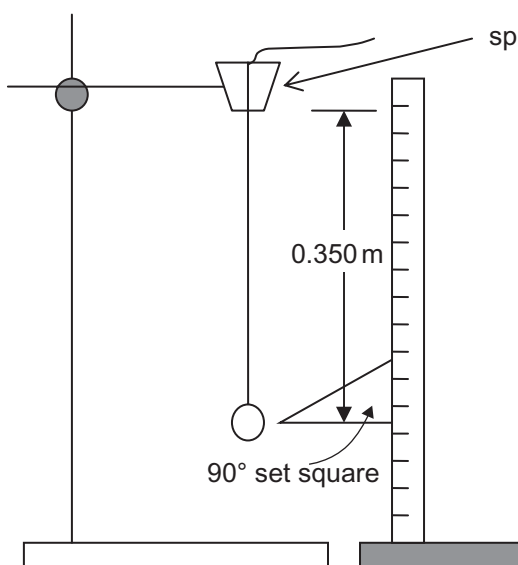
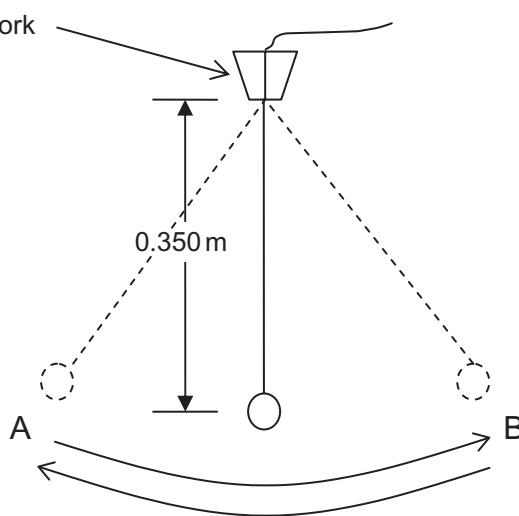

Fig. 3.1a
Fig. 3.1b
- 3 (a) The pendulum arrangement as shown in **Fig. 3.1a** is provided. Adjust the length of the pendulum until the centre of mass of the bob is 0.350 m from the point of suspension. Use the 90° set square to assist, see **Fig. 3.1a**. The curved arrows on **Fig. 3.1b** represent a single oscillation, i.e. A → B → A.